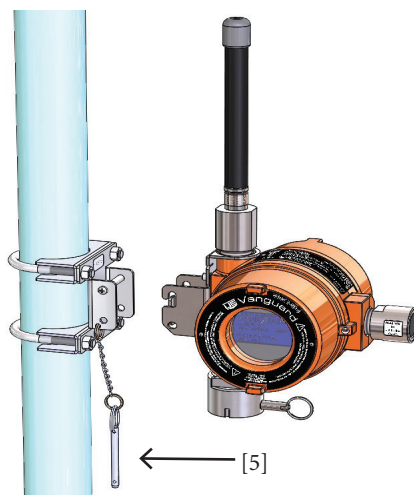

Figure 16
6. Mount device by hooking onto top pin of mounting bracket plate (see Figure 16).